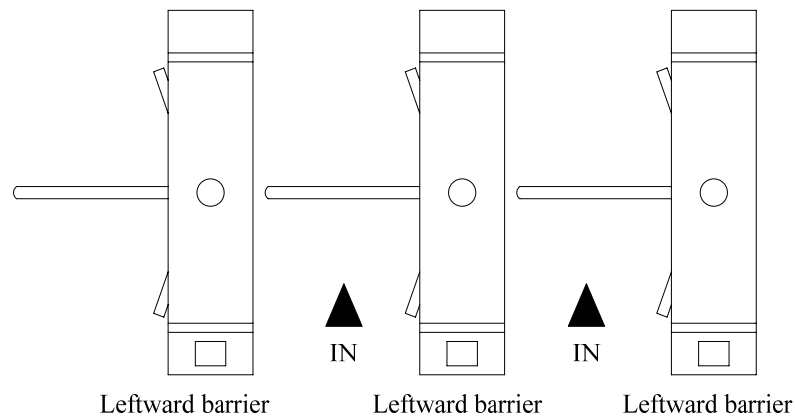

Figure 1
- 1) Leftward barrier: along passage way, barrier rod pointing to the left, as shown in Figure 1: